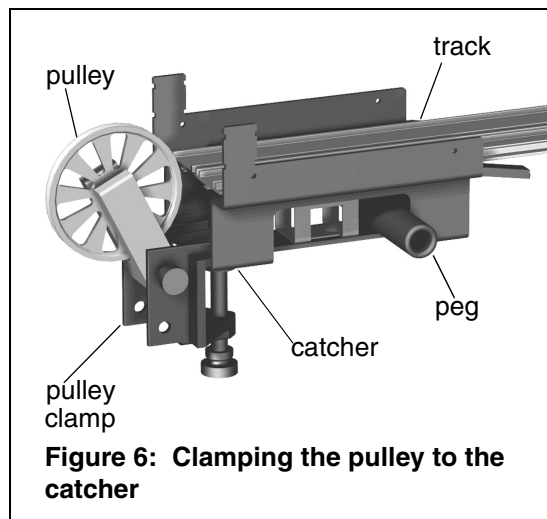

Figure 6: Clamping the pulley to the catcher
b) The catcher can be placed anywhere on the track. It can be placed between adjacent pegs or a peg can be inserted through the center hole of the catcher on either side of the spring clip. When using a clamp-on pulley, insert a peg through the catcher so the peg doesn't interfere with the pulley (see Figure 6). The pulley clamps onto the lower section of the catcher.